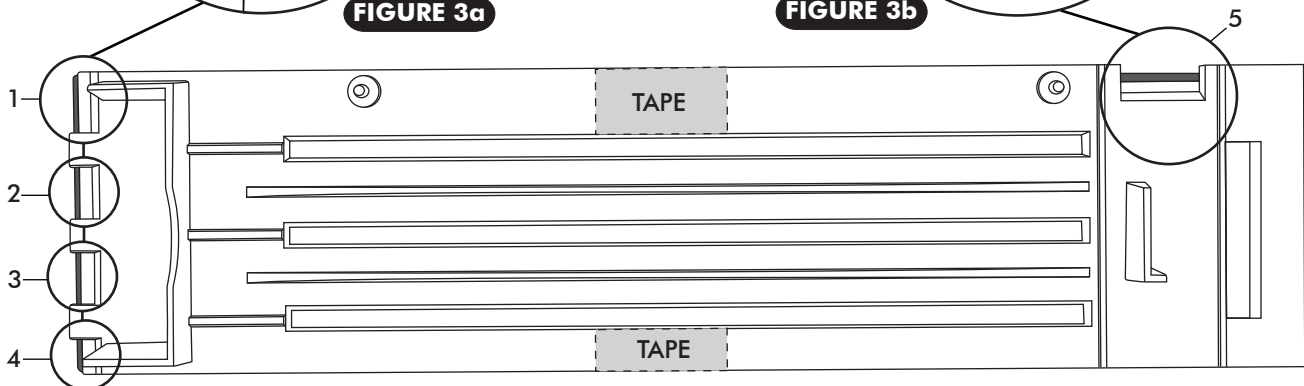

FIGURE 3
- ❑ THE ASSEMBLY CONSISTING OF THE CONTROL PANEL BACKING PLATE AND THE CLEAR FACEPLATE LENS MAY REQUIRE MODIFICATION TO ENSURE THAT AN ADEQUATE AMOUNT OF LIGHT ENTERS THE CLEAR FACEPLATE LENS. THE REASON FOR THESE MODIFICATIONS IS THAT THE ORIGINAL OPTICAL DESIGN OF THIS ASSEMBLY DID NOT ACCOUNT FOR THE MANUFACTURING VARIABILITY OF THE MATING PARTS. TO DETERMINE WHETHER MODIFICATIONS ARE NECESSARY, PLACE THE FACEPLATE LENS ONTO THE CONTROL PANEL BACKING PLATE AND VIEW FROM THE BACK SIDE AS SHOWN IN FIGURE 3, BELOW. YOU WILL SEE 5 GREEN LIGHT APERTURES, (SHADED AREAS IN FIGURE 3, BELOW), WHERE LAMP LIGHT ENTERS THE FACEPLATE LENS.
- ❑ SECURE THE FACEPLATE LENS IN ITS MOST FAVORABLE POSITION, (MAXIMUM APERTURE WIDTH), WITH FOIL TAPE. CLEAN SURFACES TO BE TAPED WITH ISOPROPYL ALCOHOL. THE TAPE SHOULD BE APPLIED TO THE EDGE OF THE FACEPLATE LENS AND WRAP AROUND TO THE BACKSIDE OF THE CONTROL PANEL BACKING PLATE AS SHOWN IN FIGURE 3, BELOW.